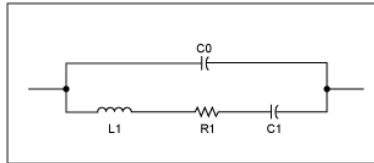

Figure 3. Crystal equivalent circuit.
Figure 3 shows the equivalent circuit for a crystal. Near the resonant frequency the circuit consists of a series circuit including motional inductance L_1 , motional resistance R_1 , and motional capacitance C_1 . The parallel component C_0 is the shunt capacitance of the crystal.
4. Temperature. The further the operating temperature is from the crystal turnover temperature, the slower the crystal oscillates. See Figures 3 and 4.